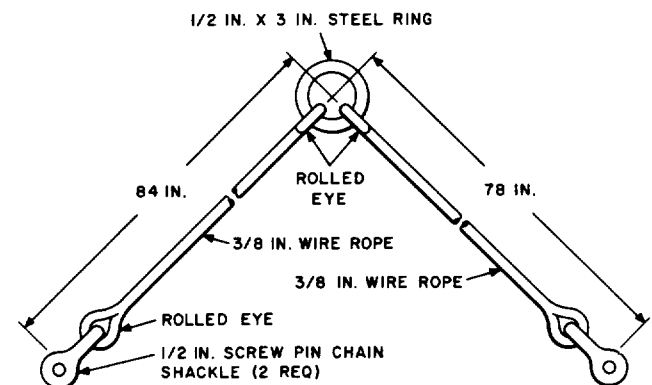

Fig. 2—Hoisting Sling (Long)
(c) Hoisting sling as shown in Fig. 2, or equivalent (required for L9 and L14 antennas).
(2) Attach the long hoisting sling (Fig. 2) to the 3/4-inch bolts which were installed previously in the L11 mounting clamp beam jaws.
(3) Attach the lower block of the 3-sheave block and fall to the ring in the sling. With the block and fall pulled up tightly, slowly raise the load line, lifting the antenna clear of the shipping base. Slack off the block and fall as the load line is raised. The antenna will rotate into a vertical position supported completely by the hoisting sling which is directly attached to the load line.
(4) Remove the 3/4-inch bolts and hence the ends of the sling, from the two L11 mounting clamp beam jaws. Unhook the lower end of the block support from the ring in the sling and slide the support down the load line until the upper block can be reached conveniently. Remove the block and fall from the support. Remove the block support from the load line. During the above operation, observe extreme care to avoid dropping any part of the gear on the antenna.
(5) Install the two remaining L11 mounting clamp beam jaws on the mounting frame. Insert the heads of the four L11 mounting clamp